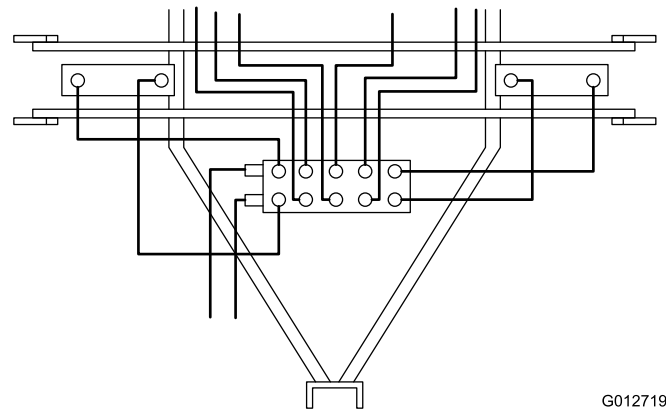

Figure 4
4. Connect the new short and long hydraulic hoses to the fittings on the control valve and cylinder as shown in Figure 4.